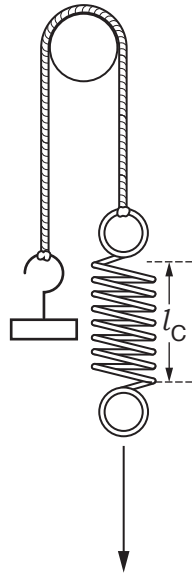

Fig. 1.4a
1. Measure the stretched length, l_C , of the spring at the instant that the mass holder starts to move when the spring is pulled **vertically downwards**, as shown in Fig. 1.4a. The string is in contact with half of the circumference of the rod.